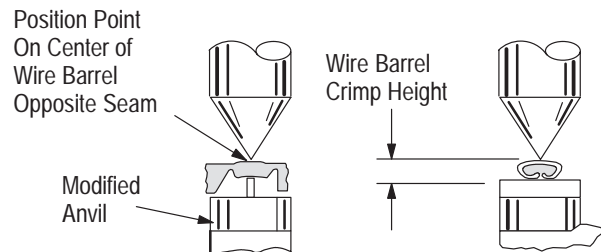

Figure 3
This inspection requires the use of micrometer with a modified anvil as shown in Figure 3.
3. Using a crimp height comparator, measure wire barrel crimp height as shown in Figure 3. If the crimp height conforms to that marked on the tool, the tool is considered dimensionally correct. If not, return the tool to Tyco Electronics for evaluation and repair (refer to Section 5).